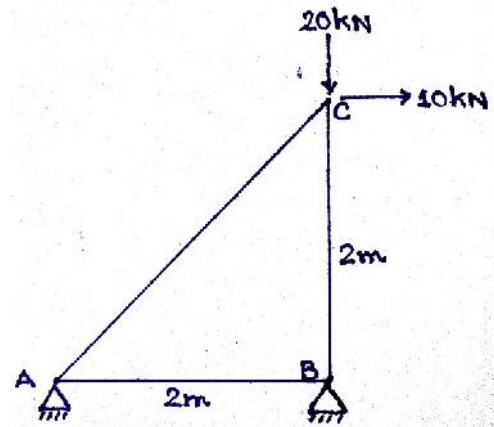

Figure 6
**Q.4** A) Determine the reactions developed in the truss as shown in the **Figure 6**, if support A moves to left by 2mm and support B sinks down by 3mm. Take  $AE = 32000$  kN. (07)